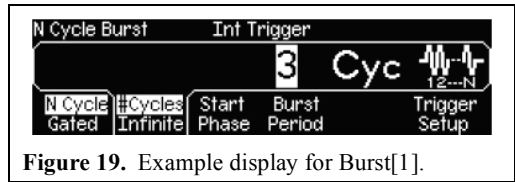

Figure 19. Example display for Burst[1].
2. Press  to bring up the screen presented in Figure 19.